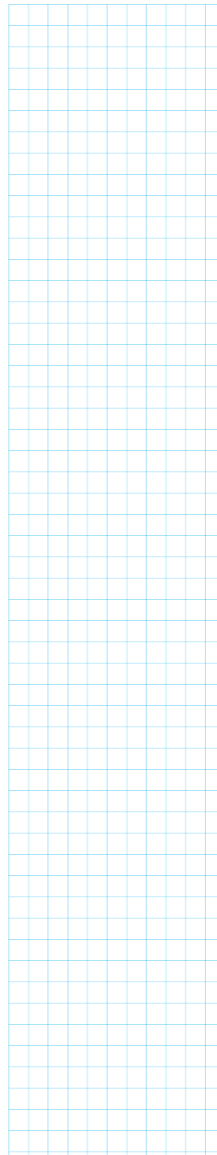

FIGURE 7-16: 3D printed gnomon
- Arrange it so that the shadow of the vertical (shorter) part falls on the horizontal part. Read off the solar angle directly (Figure 7-16).